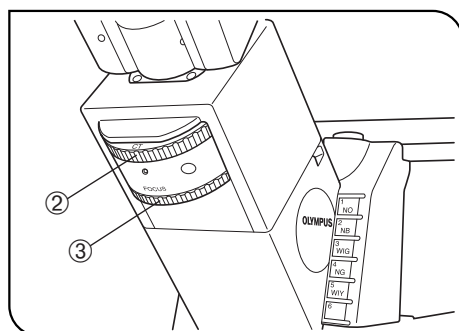

Fig. 65
4. When the U-BI90CT binocular observation tube is used, rotate the CT turret ② to position "CT" to engage the CT lens in the light path. (Fig. 65) When the U-BI90/U-TBI90 binocular observation tube or U-TR30H-2 trinocular observation tube is used, remove an eyepiece and attach the U-CT30 centering telescope.
5. Rotate the focus ring ③ (or, with the centering telescope, rotate the knurled section) to bring the objective's exit pupil into focus. (Fig. 65)